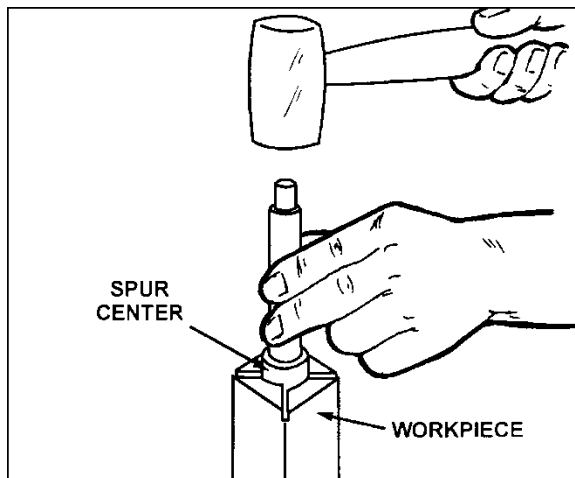

Figure 20
- Drive the spur center about 1/4" into the workpiece, using a wood mallet or dead blow hammer as shown in Figure 20. Be careful that you do not split the workpiece. **Never use a steel face hammer and never drive the workpiece onto the spur center while it is mounted in the lathe spindle.**